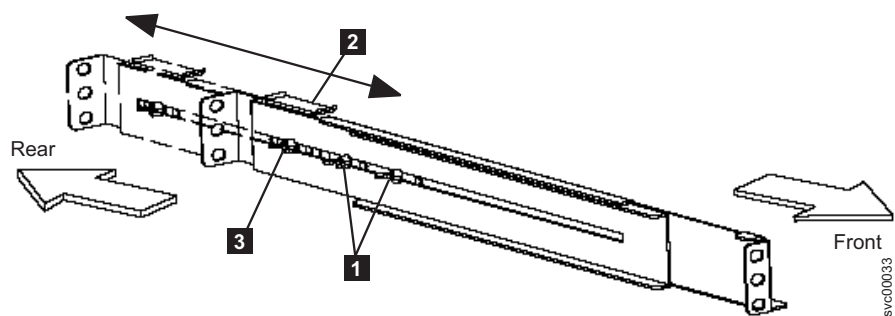

Figure 16. Adjusting the rail depth on the 2145 UPS-1U
3. Loosen the assembly wing nuts (see **1** in Figure 16) on both rail assemblies and adjust the rail size to the depth of your rack.
4. Position the rear, hold-down bracket **2** towards the end of the rail assemblies and tighten the wing nut **3**. See Figure 16.